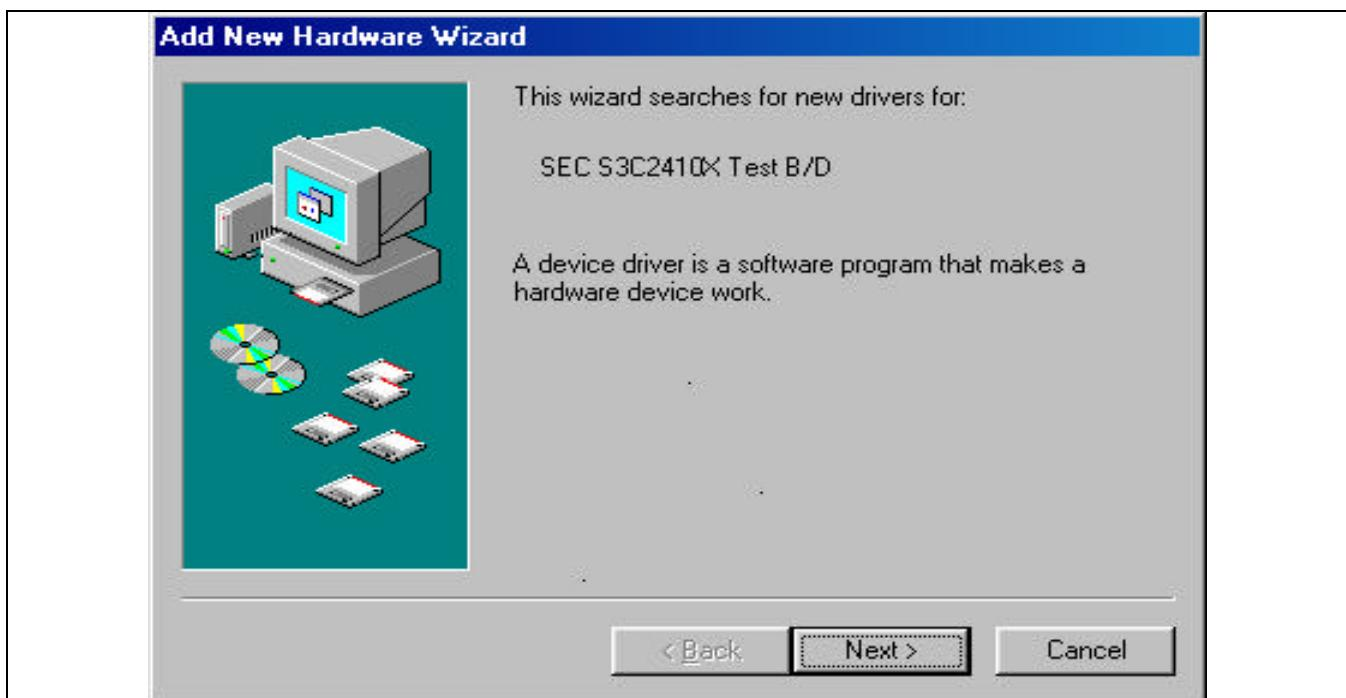

Figure 2-3. Add New Hardware Wizard (Window98)
- Connect the SMDK2410X board with the PC (See Figure 2-3).